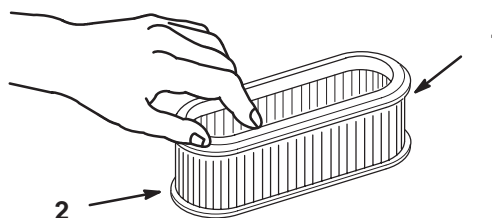

Figure 32
1. Lightly tap the element on a flat surface to remove dust and dirt (Fig. 32).